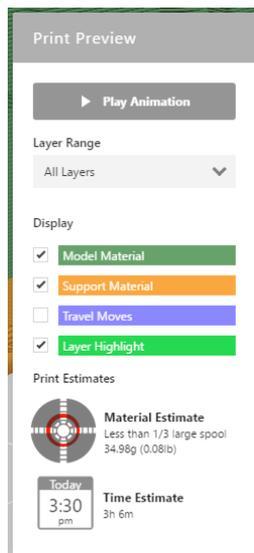

Figure 10: Print (Slice) Preview Dialogue Box
- ii.) **Slice Preview** – Slices the 3D model into layers so that you can view the path the Smart Extruder+ tool will make while printing the model. The Print (Slice) Preview Dialogue is shown in Figure 10 below.